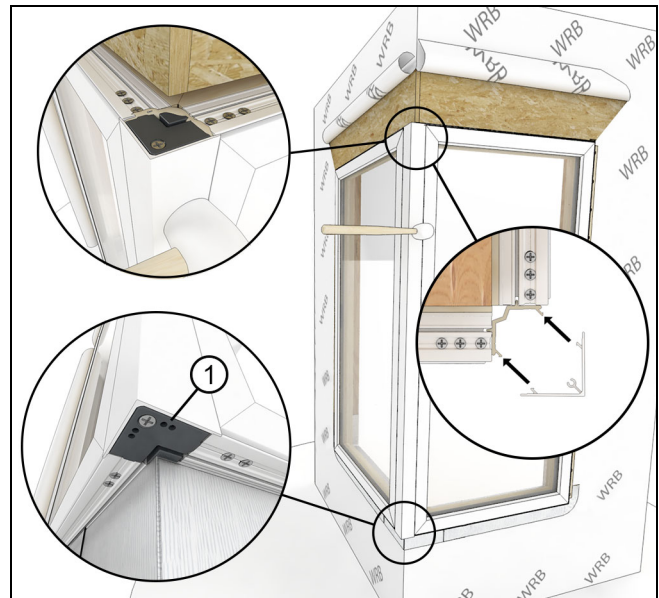

Figure 52
19. Snap on the clad corner cap. Seat the cap with a rubber mallet. See Figure 52.